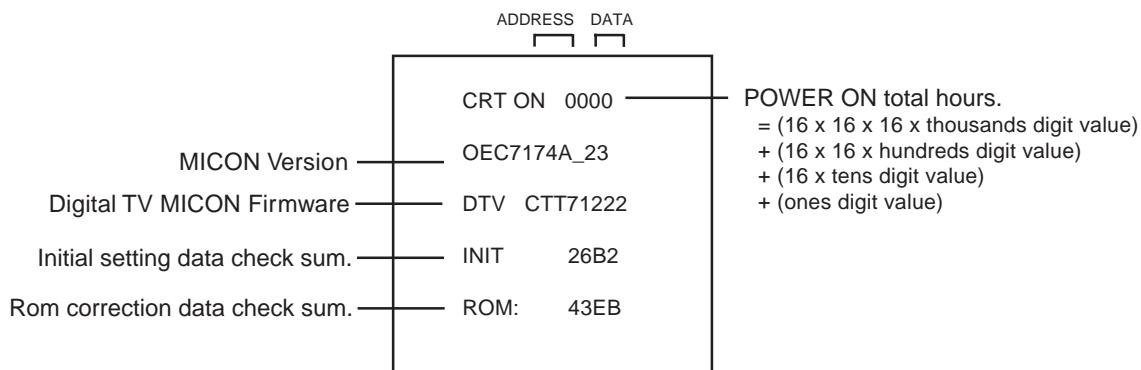

FIG. 1
2. Using the Serial Communication Change JIG (**JG205**), connect the set to personal computer. (Refer to Fig. 1)